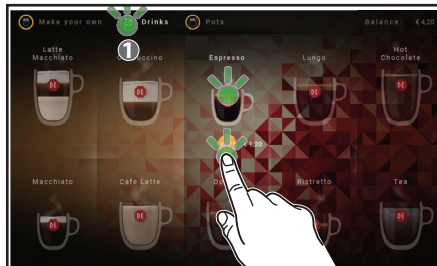

Fig. 4.8 - "Drinks"
1. Tap on the upper middle icon "Drinks" (1) on the touch screen, when the dispenser is in delivery mode (fig. 4.8)